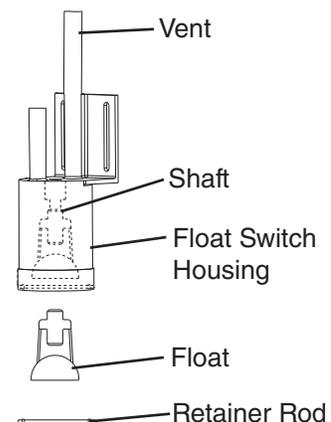

Fig. 3
- 7) Disconnect the vent tube and the flush tube from the top of FS housing, then remove FS assembly. Remove the rubber boot from the bottom of FS assembly. See Fig. 3.